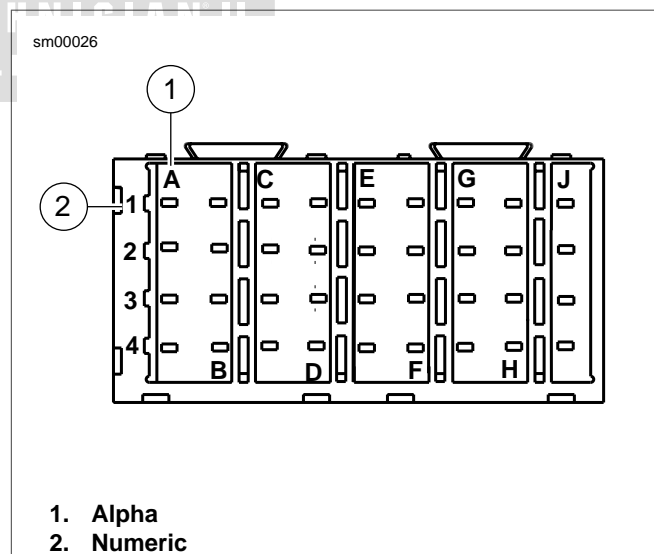

Figure A-40. Fuse Block: Coordinates (typical)
- See Figure A-40. The main fuse block terminal cavity is identified as alpha (1) and numeric (2) coordinates. Refer to the main harness wiring diagram for fuse block terminal cavity coordinates.